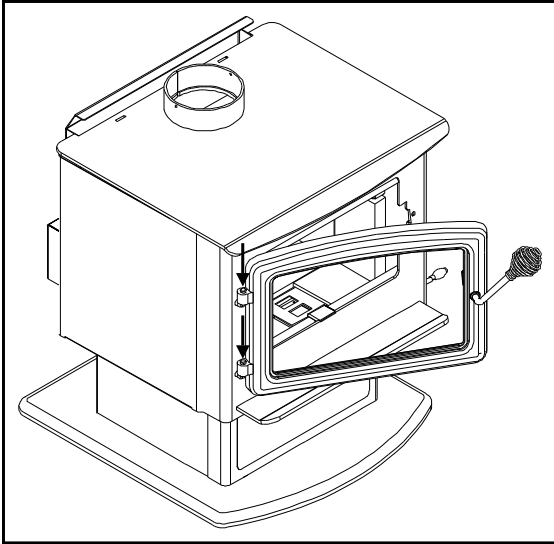

Figure 37: Installation Door onto Unit.
2. Place the door assembly on the two (2) hinge pins mounted on the body of the unit. Refer to Figure 37.